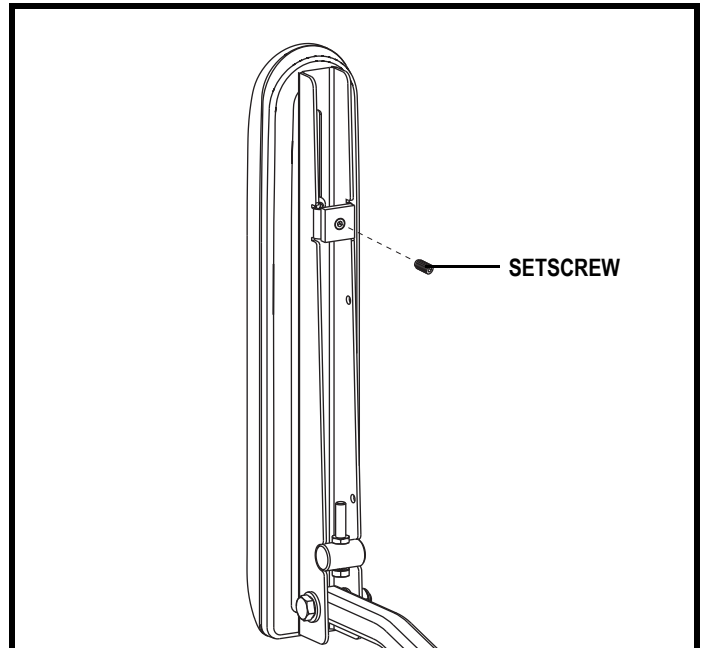

Figure 12. Underside of Armrest
2. Loosen the setscrew on the controller bracket. See **figure 12**.
5. Loosen the setscrew on the controller bracket. See **figure 12**.